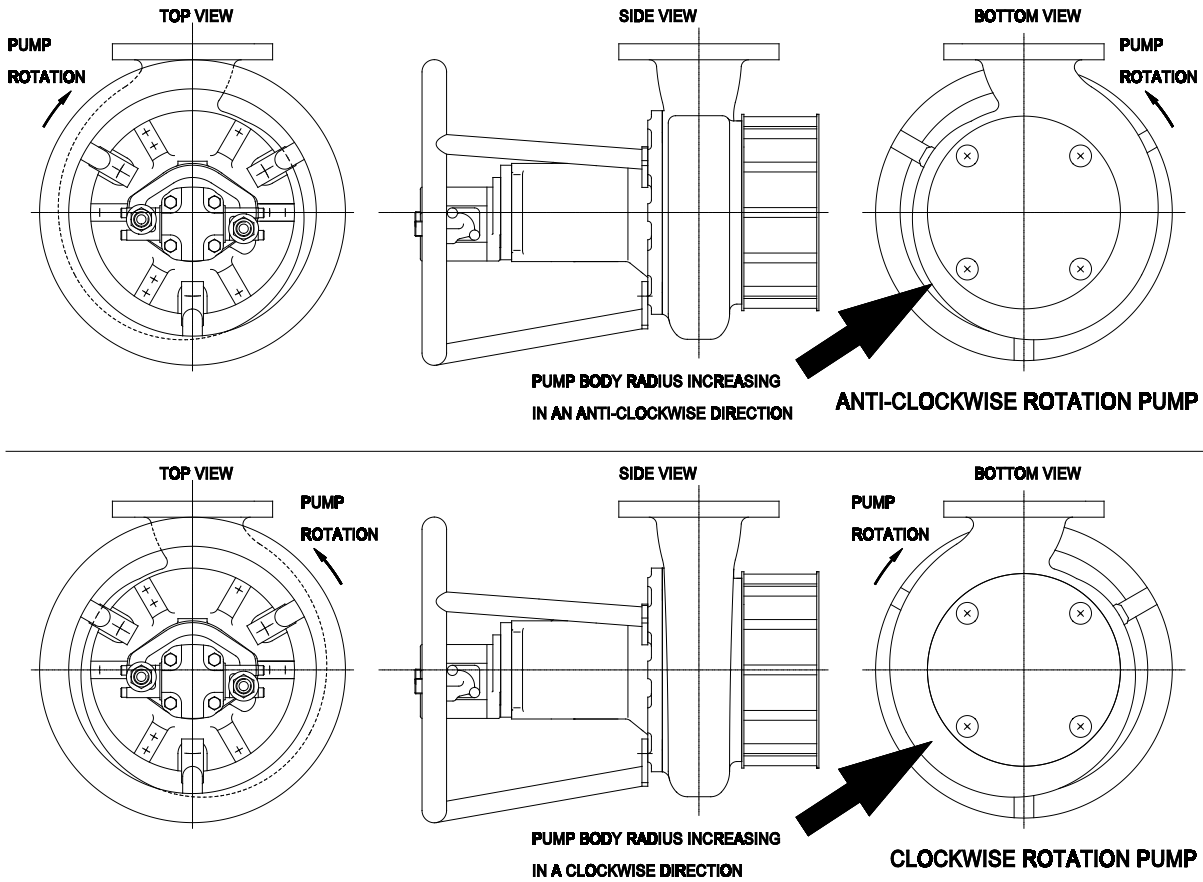

Figure 2 Pump rotation
It is important to understand that when specifying any directional rotation it **must** be qualified by stating the direction in which that rotation is viewed. This is illustrated in Figure 2 where, when viewed from above the submersible pump, the direction of rotation is clockwise, but the Xylem Dewatering Solutions method of specification is the direction of rotation looking from the underside (i.e. the inlet side) of the pump and is anti-clockwise. Figure 2 shows a Heidra 10022 submersible pump but the principles are equally applicable to any submersible pump.
1. Identify the submersible pump rotation – clockwise or anti-clockwise? (Refer to Figure 2).